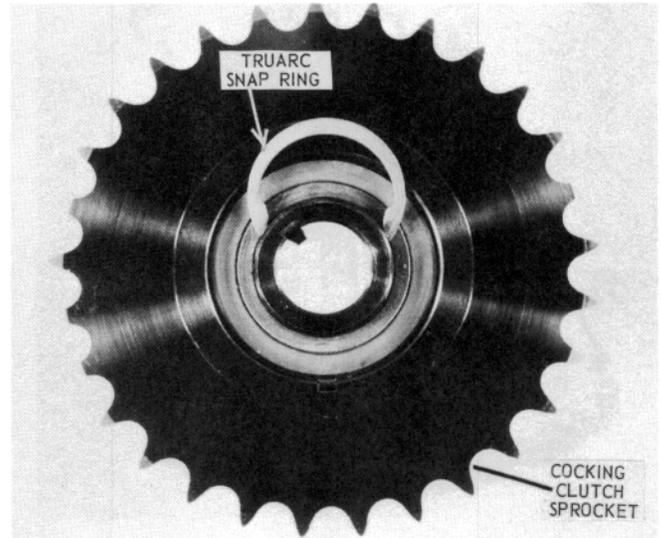

Figure 53 – Cocking Clutch Sprocket and Snap Ring
3.1.1 Remove the Truarc snap ring located just above the cocking clutch sprocket (see Figure 53).